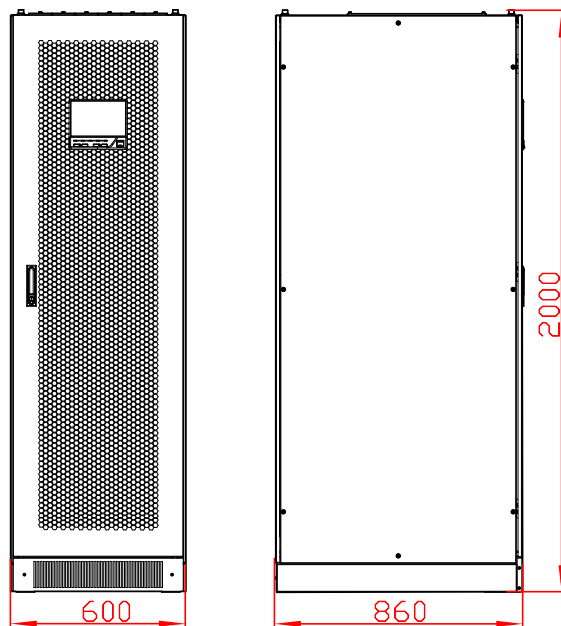

Figure3-7 UPS size(unit: mm)
- Step 1 Determine and plan the installation position according to the UPS size (as shown in Figure3-7) and installation clearance requirement (see **3.2.3 Installation Clearance**).